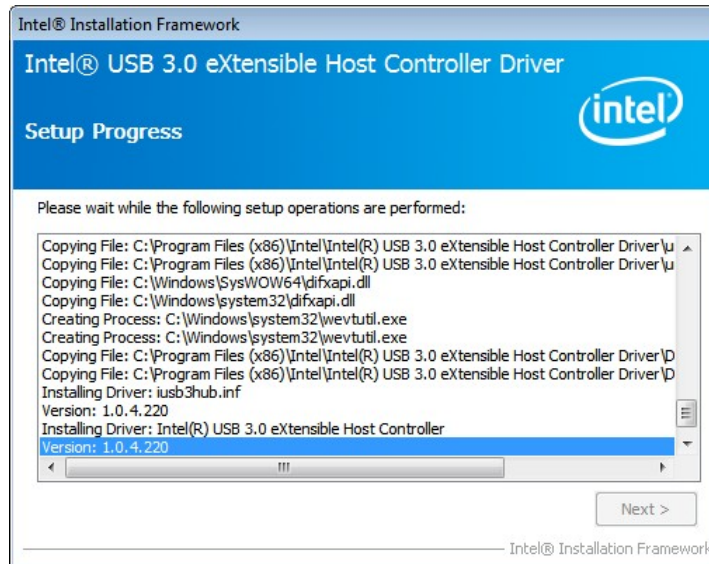

Figure 6-30: USB 3.0 Driver Setup Operations
Step 11: **Setup Operations** are performed as shown in **Figure 6-30**.